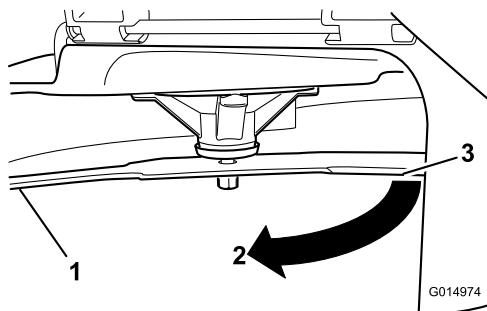

Figure 73
3. Measured distance between blade and the surface (A)
4. Rotate the same blade 180 degrees so that the opposing cutting edge is now in the same position (Figure 73).